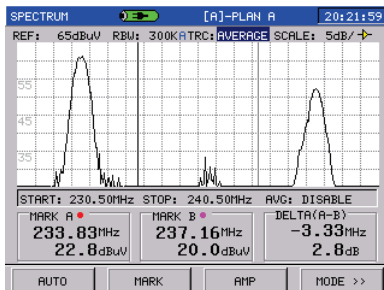

Figure 3-4-2
**SPECTRUM(F1)**: Press SPECTRUM soft key to enter the single channel spectrum scanning interface, as Figure 3-4-2.